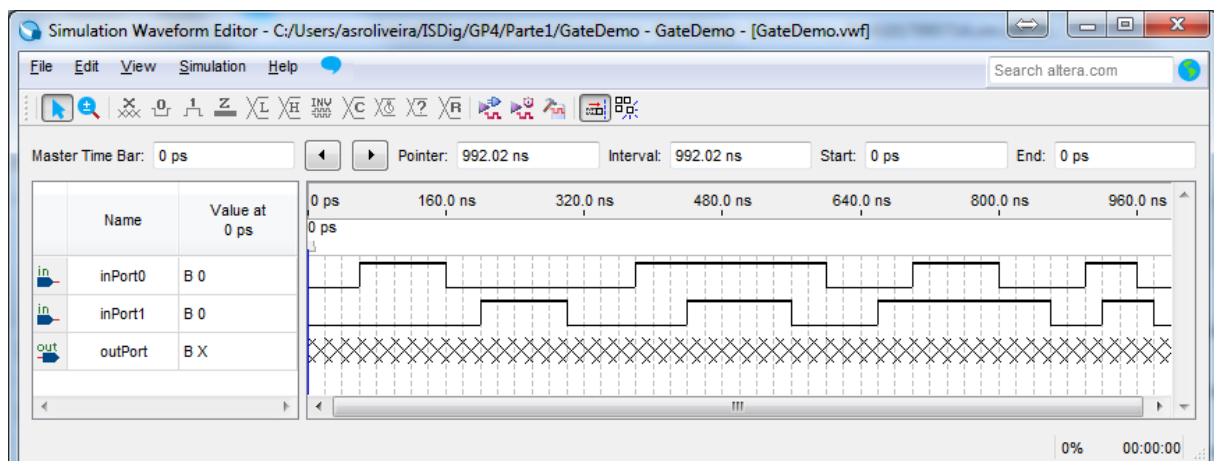

Figure 19 - Simulator window after specifying the input signal waveforms (vectors).
12. After pressing “OK” you can specify the desired values for the circuit inputs over time - the output value (s) will be determined during the simulation. Use the mouse to select the time-frame sections of the desired signal with the logical value you want it to assume (Figure 19).